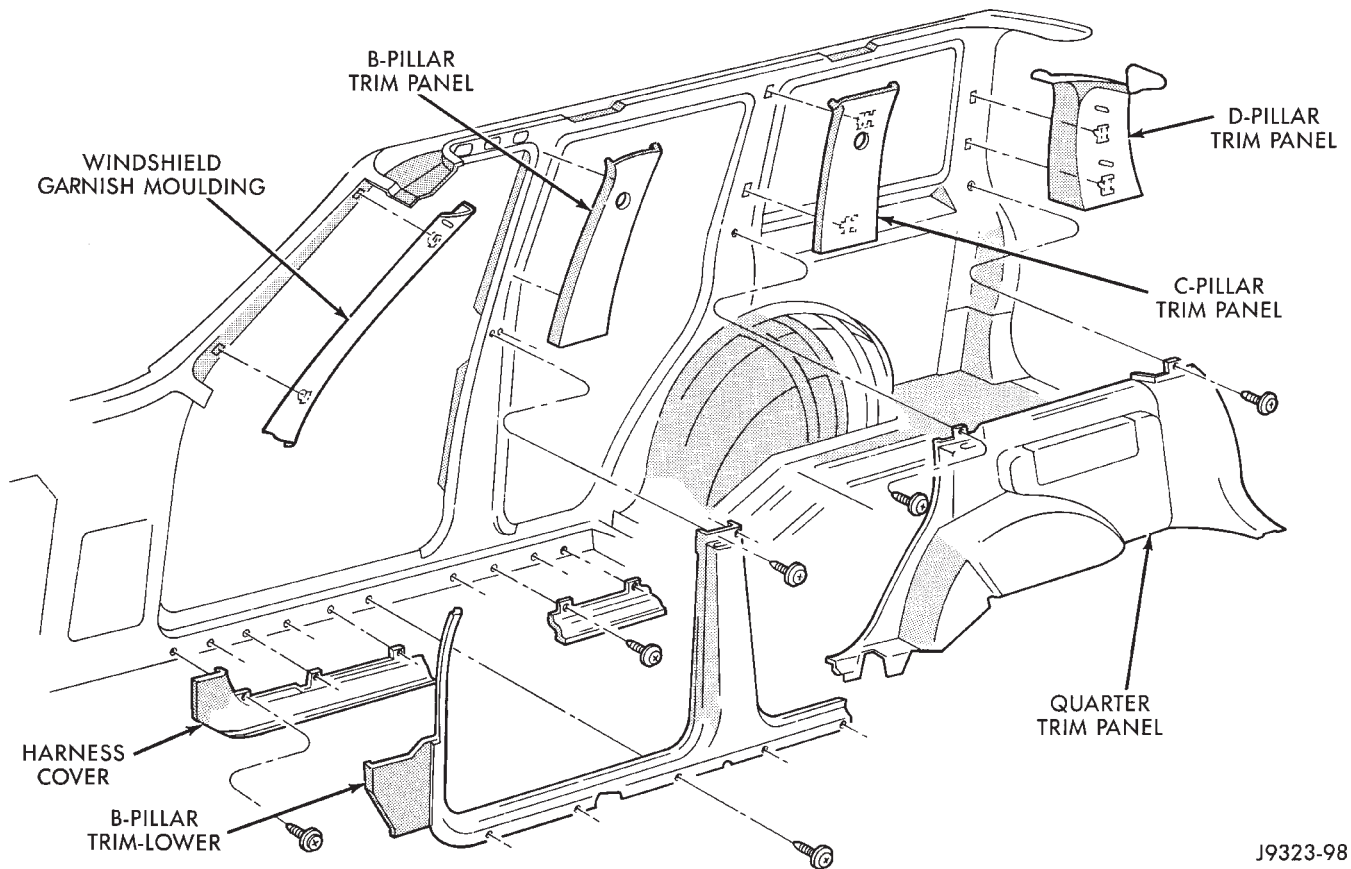

Fig. 7 Interior Trim Panels
- (2) Detach and remove the A-pillar upper trim panel (Fig. 7).
- (1) Unsnap clips retaining upper A-pillar trim panel.
- (2) Remove trim panel (Fig. 7).
(5) Detach and remove C-pillar trim panel (Fig. 7).